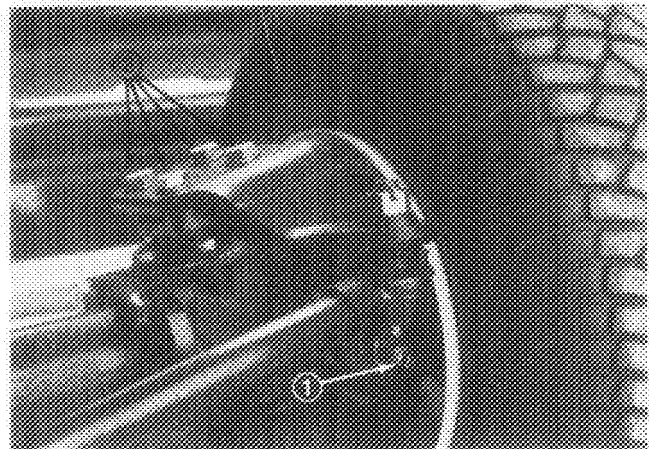

Figure 24
CHECK REAR AXLE LUBRICANT (Fig. 24 & 25) (Model 03504 only)
2. Remove a check plug from each end of axle and make sure lubricant is up to bottom of hole. If level is low, remove one of the mounting bolts above each end plug and add enough lubricant to bring the level up to the bottom of the hole (Fig. 24).